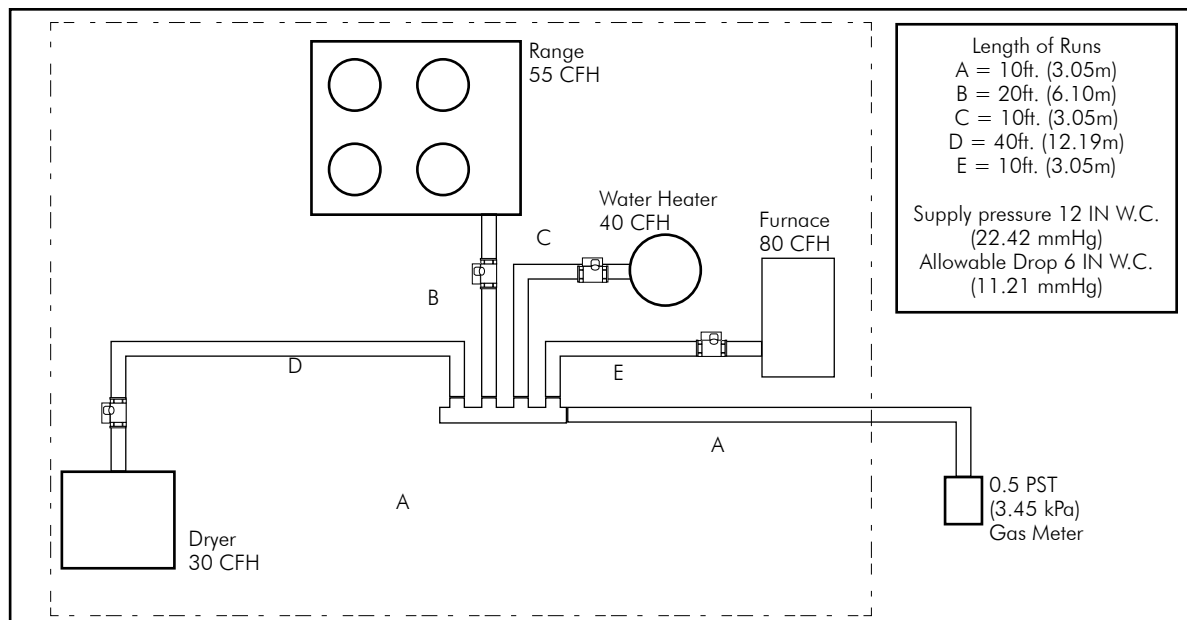

FIG. 3-3 Example 2 - Low Pressure System, 12 IN W.C. (22.42mmHg) Parallel Arrangement
1. The system shown in FIG. 3-3 is typical of a single family installation with several appliances and medium loads. The appliances are installed apart instead of all together, and the arrangement chosen is parallel. The higher supply pressure of 12 in.W.C. (22.42mmHg) allows a higher pressure drop, 6 in.W.C. (11.21mmHg) than is available with low pressure systems.
- Select Table N-4 (Page 49) "Low Pressure 12 in.W.C. (22.42mmHg) with 6 in.W.C. (11.21mmHg drop). It shows that ½" (13) size is too small for 205 CFH at 50 ft. (15.24m), but size ¾" (19) can handle 365 CFH.